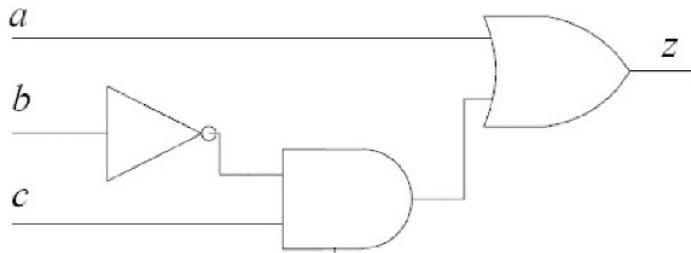

Fig. 3.19: circuit diagram
35. Consider the boolean Function $z(a, b, c)$ from below Fig. 3.19.